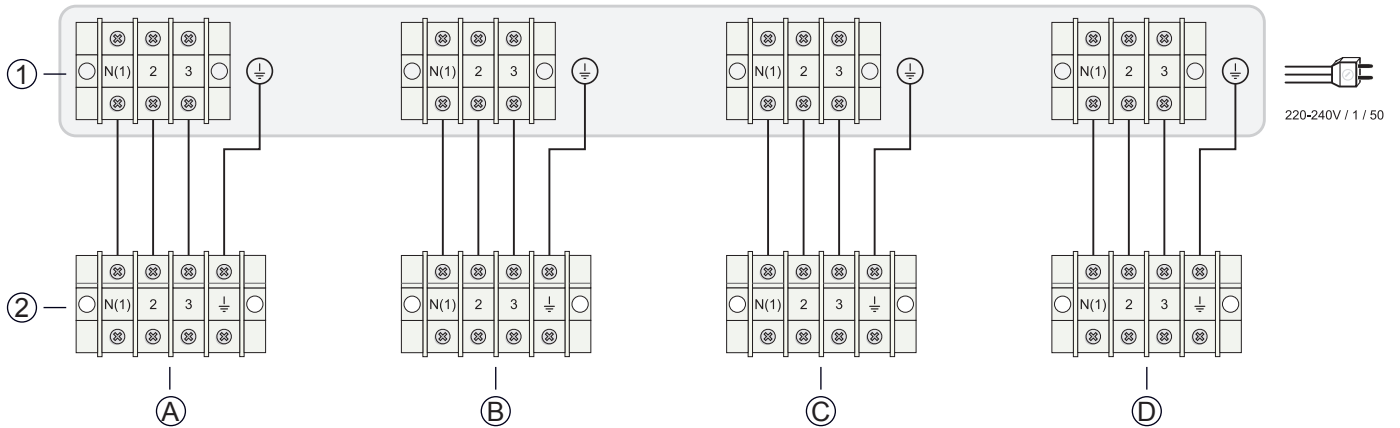

Fig. 11.4 Electrical layout for outdoor and indoor connection.
- Pass the electrical cable from the rear of the indoor unit through the specific hole in the front. Connect the cables in the indoor unit terminal space according to the corresponding connection layout. (Figure 11.4 and 11.5).